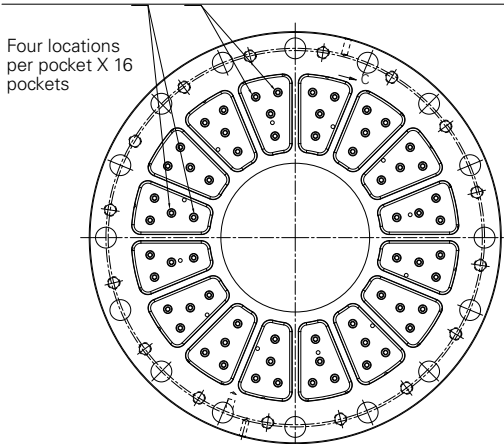

Figure 16
- 4.9.21 Install the springs in a symmetrical pattern on the pressure plate subassembly (13), distributing them as evenly as possible. Locate the springs over bosses or in the spring pockets in the pressure plate, as shown in Figure 16. If applicable, position the spring retainers (53) on top of the springs to hold the springs into position.